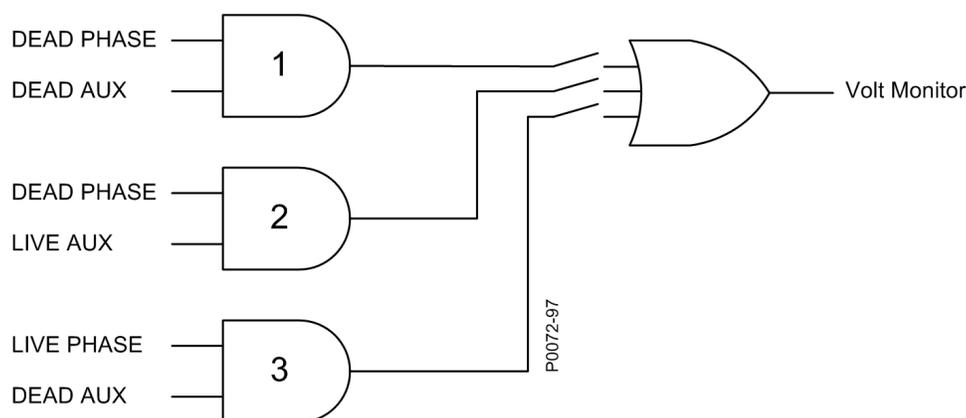

Figure 16-1. Voltage Monitor Logic
The Volt Monitor logic is illustrated in Figure 16-1. Any combination of logic settings can be selected for the Voltage Monitor Logic on the Sync-Check (25) settings screen in *BESTCOMSPlus*. When a logic combination is selected, the sync-check element closes the respective switch in Figure 16-1 associated with each of the outputs.